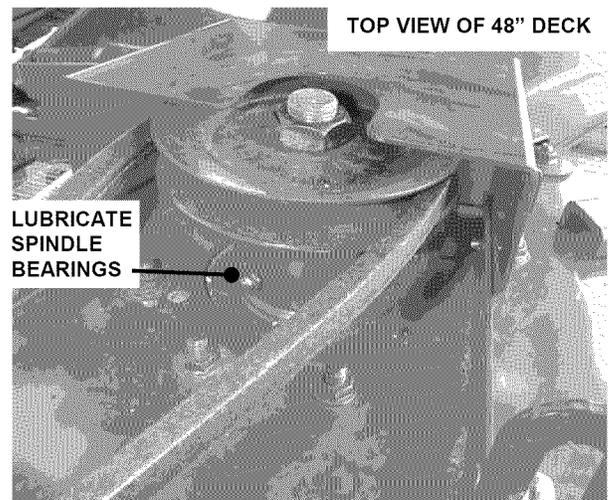

FIGURE 3.6
a. Lubricate spindle bearings with three shots of general purpose grease from grease gun. See Figure 3.6.